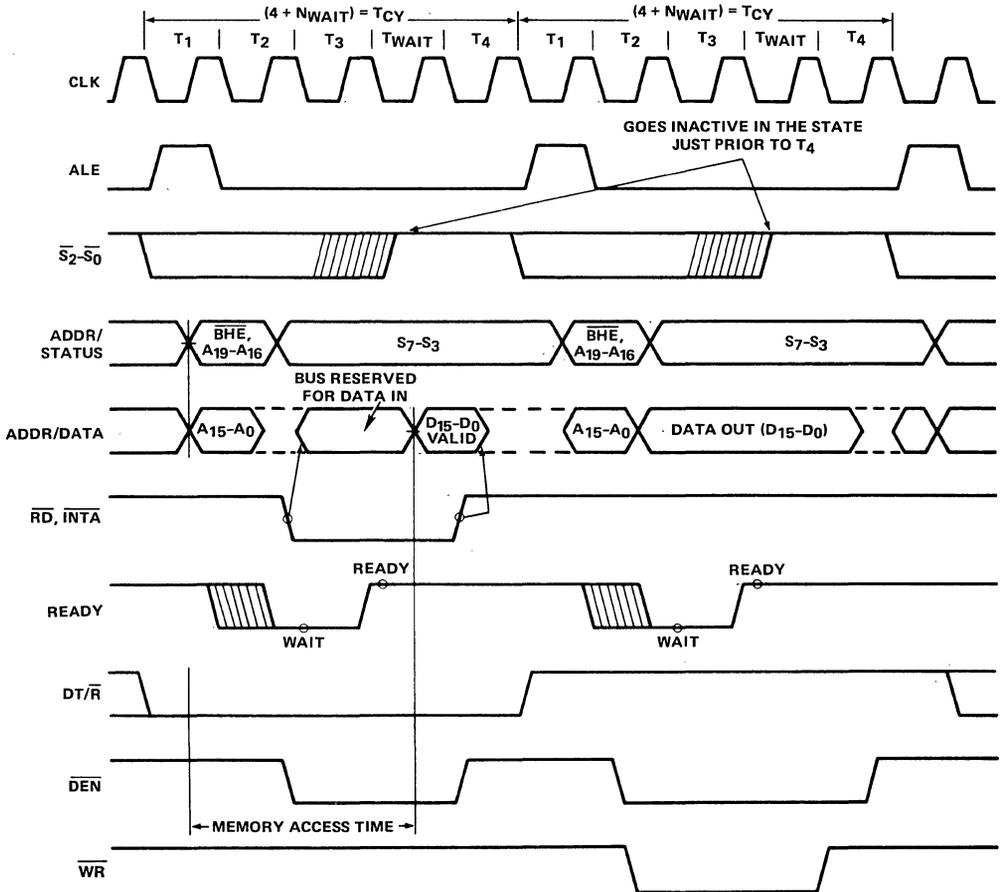

FIGURE 3. BASIC SYSTEM TIMING
Each processor bus cycle consists of at least four CLK cycles. These are referred to as T1, T2, T3 and T4 (see Figure 3). The address is emitted from the processor during T1 and data transfer occurs on the bus during T3 and T4. T2 is used primarily for changing the direction of the bus during read operations. In the event that a "NOT READY" indication is given by the addressed device, "Wait" states (TW) are inserted between T3 and T4. Each inserted wait state is the same duration as a CLK cycle. Periods can occur between 80C86 driven bus cycles. These are referred to as idle" states (TI) or inactive CLK cycles. The processor uses these cycles for internal housekeeping and processing.
Typical system configurations for the processor operating in minimum mode and in maximum mode are shown in Figures 6A and 6B, respectively. In minimum mode, the MN/MX pin is strapped to VCC and the processor emits bus control signals (e.g. RD, WR, etc.) directly. In maximum mode, the MN/MX pin is strapped to GND and the processor emits coded status information which the 82C88 bus controller uses to generate MULTIBUS compatible bus control signals. Figure 3 shows the signal timing relationships.